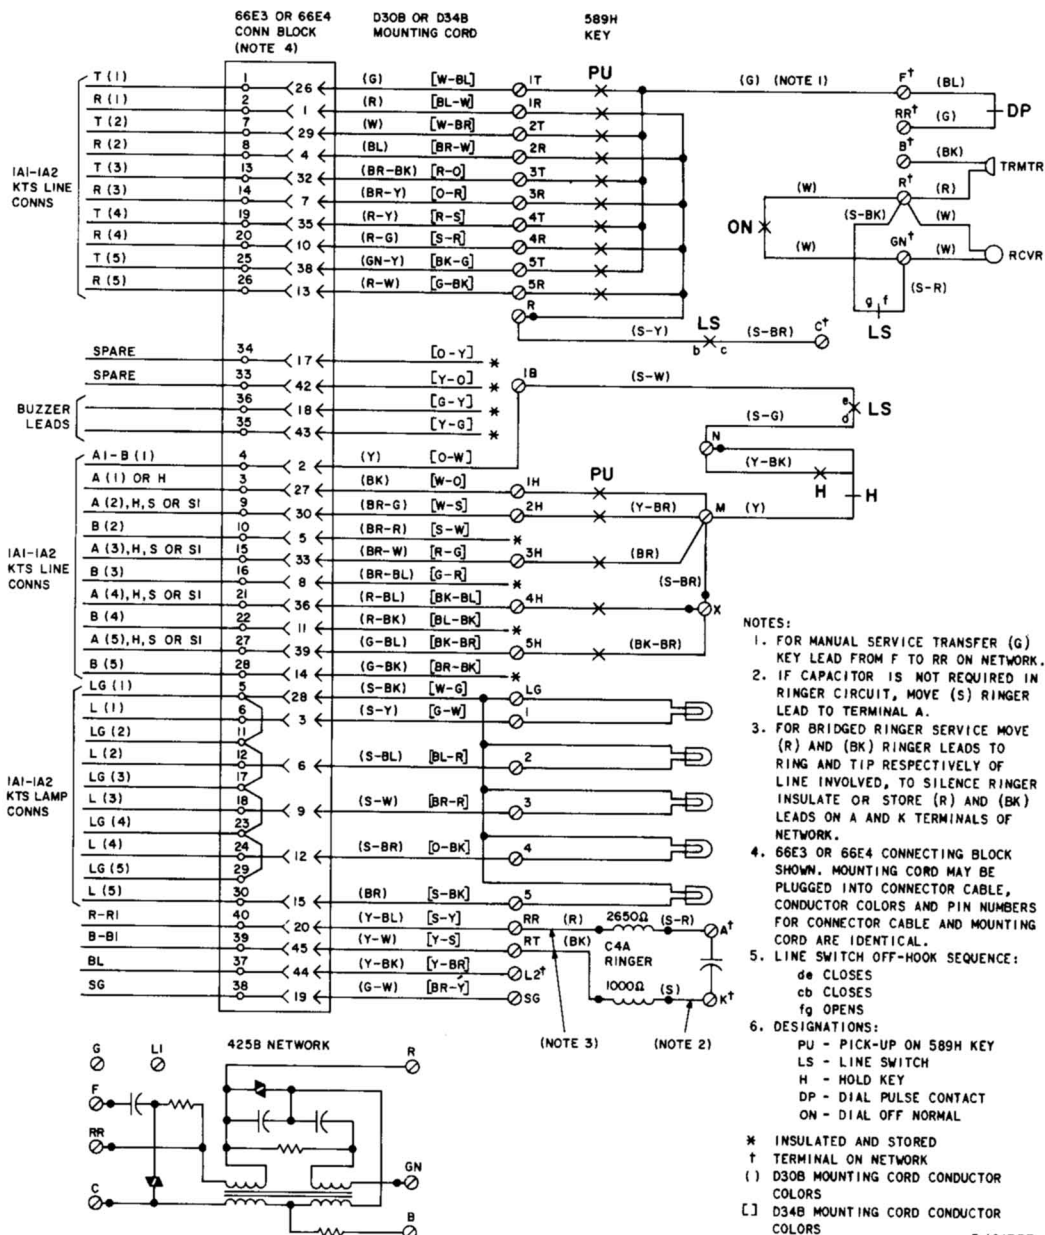

Fig. 1—564HD (MD) Telephone Set, Connections
- Revise Fig. 1, 2, 3, and 4
**1.02** This section contains connection information for the 564HD (MD) telephone set.